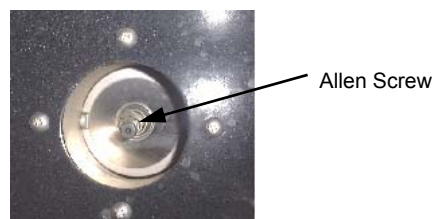

Figure 6.3.36
- 2) Drill out the six rivets (refer figure 6.3.36, E) on the inside of the RH door trim (A) using a 3.5mm drill.
- 3) Remove four screws (F) on outside of RH door trim (A).
- 5) Remove four screws (J) from RH inner door trim (B), and remove trim. (Loosen bottom trim screw (K) if required).
- 6) Remove two split-pins (G) from the connecting rod (H) on latch (C).
- 7) With handle in open position, push latch mechanism (C1) away from connecting rod (H) and remove the connecting rod.
- 8) Remove two screws (I) securing latching mechanism (C), and remove.
- 2) Drill out the six rivets (refer figure 6.3.36, E) on the inside of the RH outer door trim (A) using a 3.5mm drill.
- 3) Remove four screws (F) on outside of RH outer door trim (A).
- 6) Remove four split-pins (G) from the connecting rods (H) on handle mechanism (D).
- 7) With handle in open position, push latch mechanism (C1) away from connecting rod (H) and remove the connecting rods.
- 8) Remove two screws (L) securing handle mechanism (D), and remove.